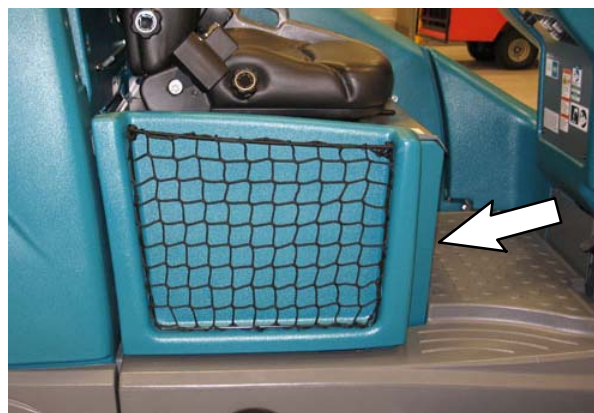

FIG. 1
4. Remove the seat shroud from the machine. Set the seat shroud and hardware aside. (Fig. 1)